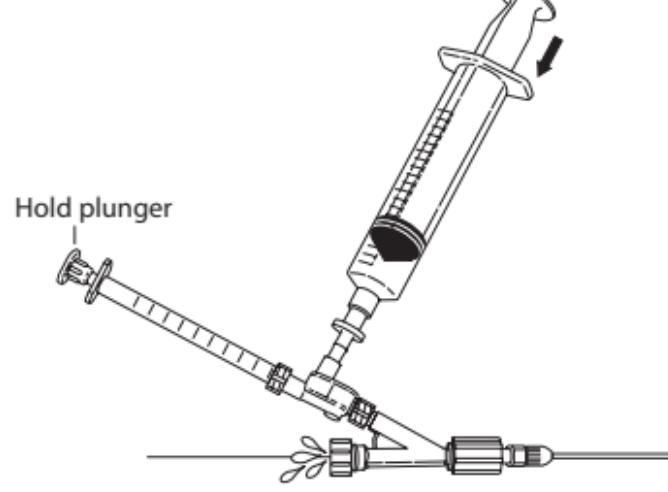

Fig.6
- Purge any remaining air bubbles by holding the plunger on the 1 mL syringe stationary, and slowly depressing the 20 mL syringe to force any remaining air bubbles out. Once all air has been removed from the system, tighten the Tuohy-Borst valve around the tip occluder. (**Fig. 6**)